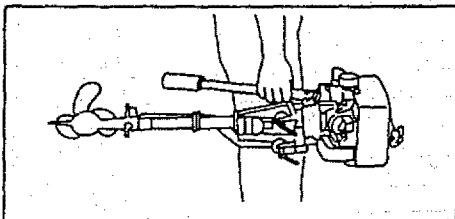

Figure 14
- c. Steering handle serves as carrying handle as shown in Figure 14.